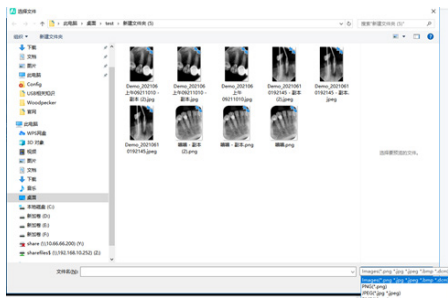
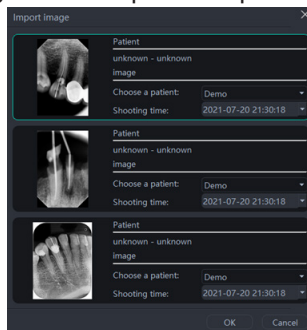

Figure 22
Figure 23
(2) After entering the patient interface of the software, click the collection button, select the device type of "File import", and click "Import" to enter the interface for selecting images. PNG, JPG, JPEG, BMP, DCM and other formats can be imported into the software, as shown in Figure 22. After selecting images, click "OK" to enter the interface for importing images, as shown in FIG. 23. The target patient and shooting time can be selected for each image, and click "OK" to save the image for the specified patient.